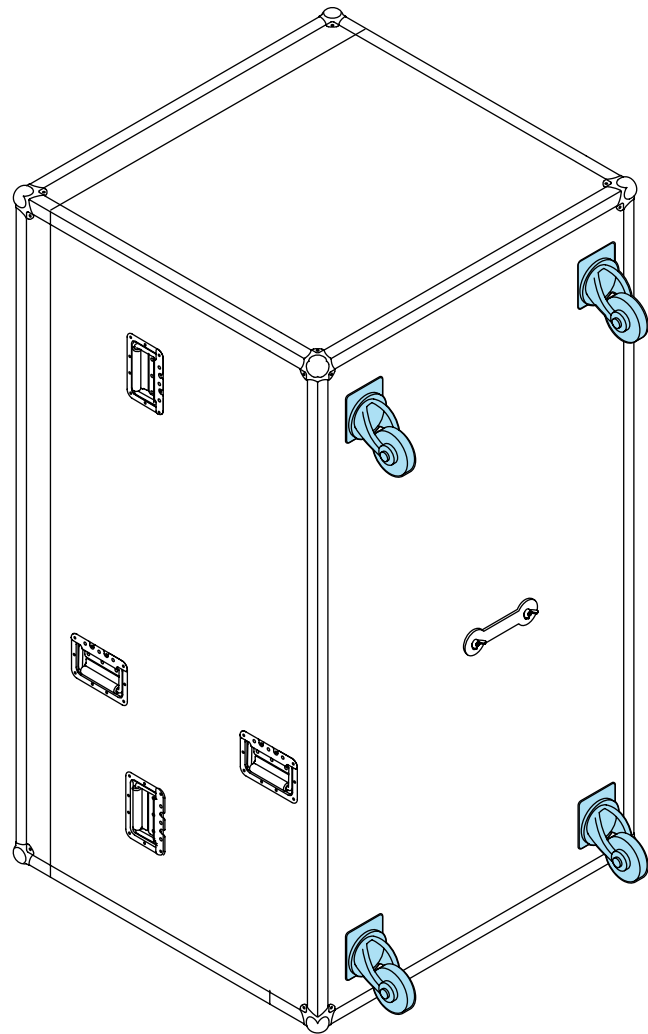
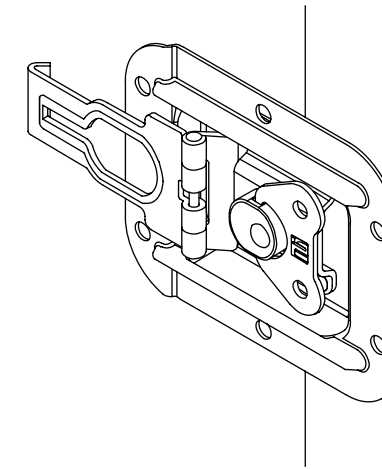
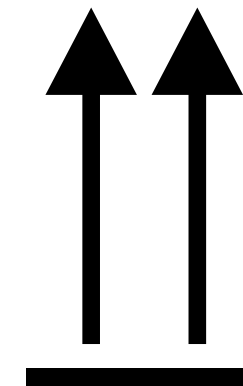

Figure 5.2. Bottom of the transport case with wheels
Figure 5.3. Transport case lock
Figure 5.4. "Do not overturn!" label on the transport case
The transport case is equipped with wheels (Figure 5.2), locks (Figure 5.3) and handles. The robot can be moved either vertically, according to the label (Figure 5.4), or horizontally on the wheels.
1. Place the transport case in an upright position according to the shipping label (Figure 5.4).
2. Unscrew the wing screws (Figure 5.3) on the four lid locks, release the locks, remove the lid by pulling it forward and put it aside.